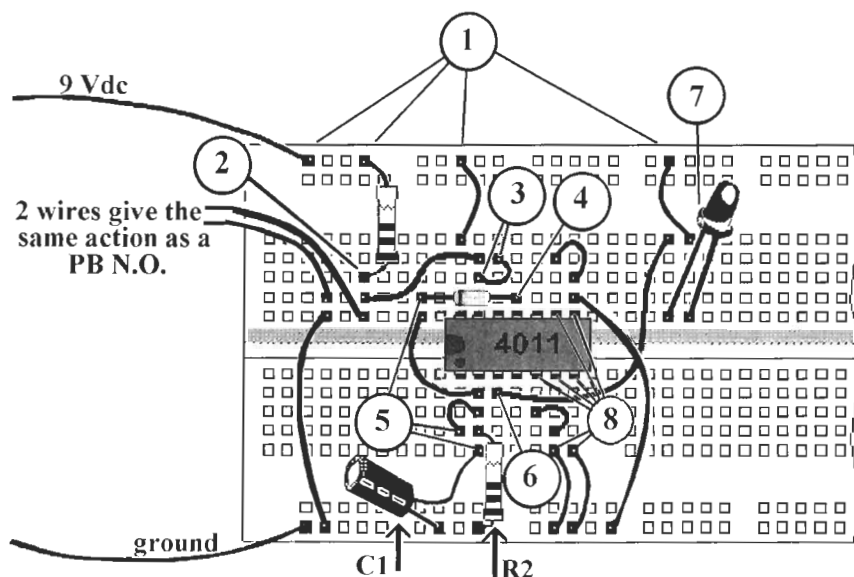

Figure L16-3
4. Now examine Figure L16-3.
Table L16-2 Measurements for Figure L16-3